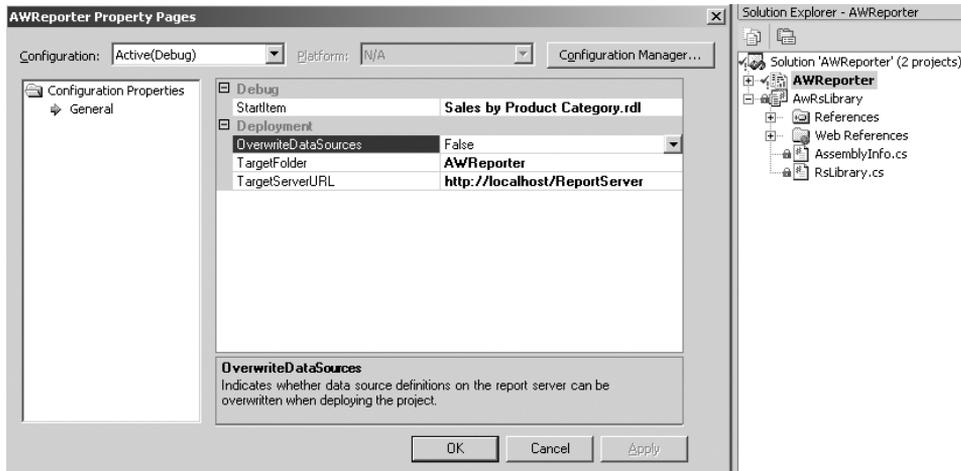

Figure 6.10 Use the Report Host debug option to avoid locking assemblies.
- Step 2** Change the BI project start item to the report that calls the custom code, as shown in figure 6.10.